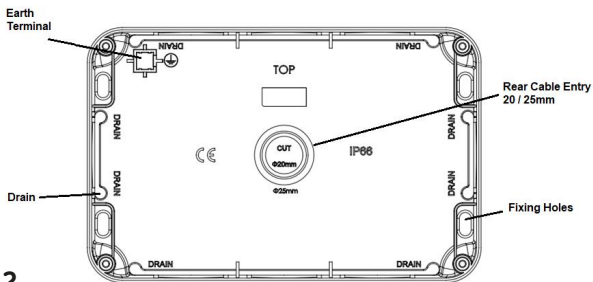

Fig. 2
- The backbox has drain hole drilling guides marked (see Fig. 2). Drilling a drain hole is advised if the unit is installed in a location subject to temperature fluctuations where a build-up of condensation may occur. It is not advised if the unit will be subject to high pressure jets, as drilling a drain hole will reduce the IP rating. A 3–5mm hole should be drilled at the bottom back edge of the enclosure where marked. If wiring in conduit to the bottom entry, then the drain hole should be drilled at the lowest point of the conduit run not in the backbox